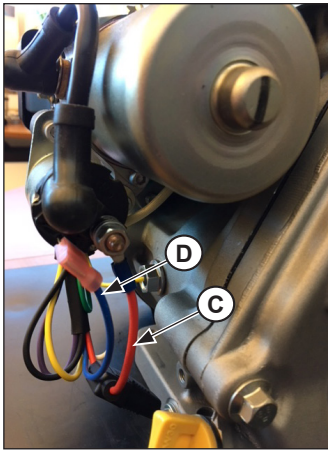

Figure 4. Connect Key Box Leads to Starter Solenoid.
6. Connect key box red lead (C) to starter solenoid using nut and two washers removed in step 1. See Figure 4.
7. Connect key box blue lead (D) to starter solenoid blade terminal. See Figure 4.